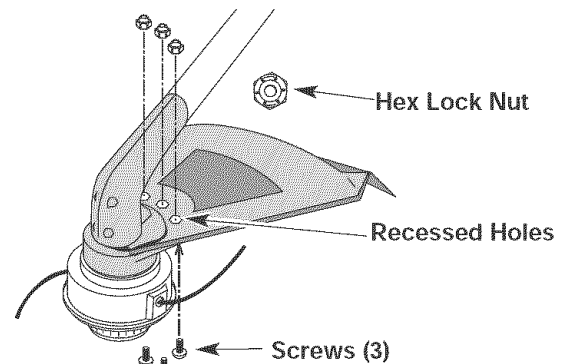

Fig. 3
2. Place one of the three (3) supplied hex lock nuts into one of the three recessed holes on the top of the cutting attachment shield (Fig 3).
3. Install a screw into the hole from the bottom of the cutting attachment shield. Screw it into the nut installed in step 2 until it is started (Fig 3). Do not tighten.